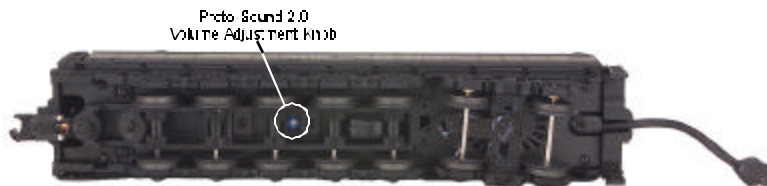

Figure 2. Manually Adjusting the Proto-Sound 2.0 Volume
**Manual Volume Control** – To adjust the volume of all sounds made by this engine, turn the master volume control knob located under the tender clockwise to increase the volume and counter-clockwise to decrease the volume (see Fig. 2).